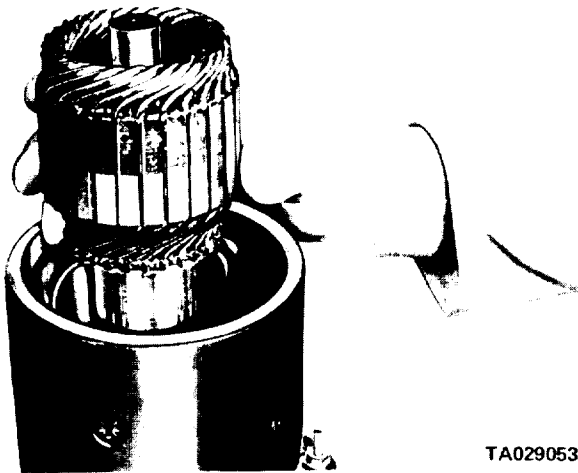

Figure 15-26. Installing Armature.
(18) Position the field frame to the exact position on the gear housing and put the armature into the field frame and starter gear housing (figure 15-26). Rotate the armature slightly to engage the splines of the shaft with the reduction gear.